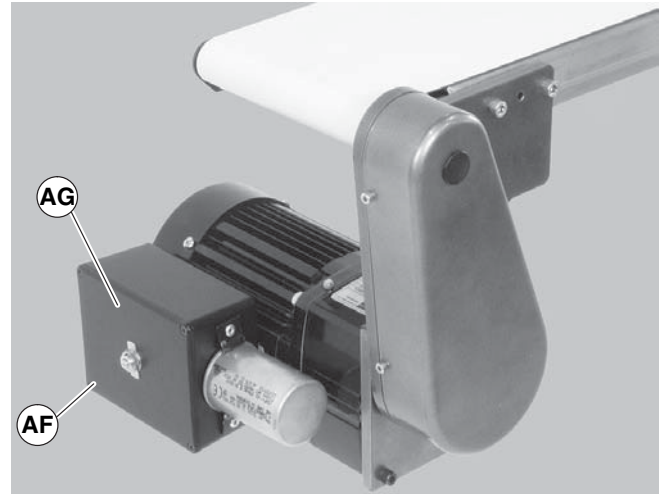

Figure 17
- a. Loosen terminal box screws (Figure 17, item AF) and remove cover (AG).